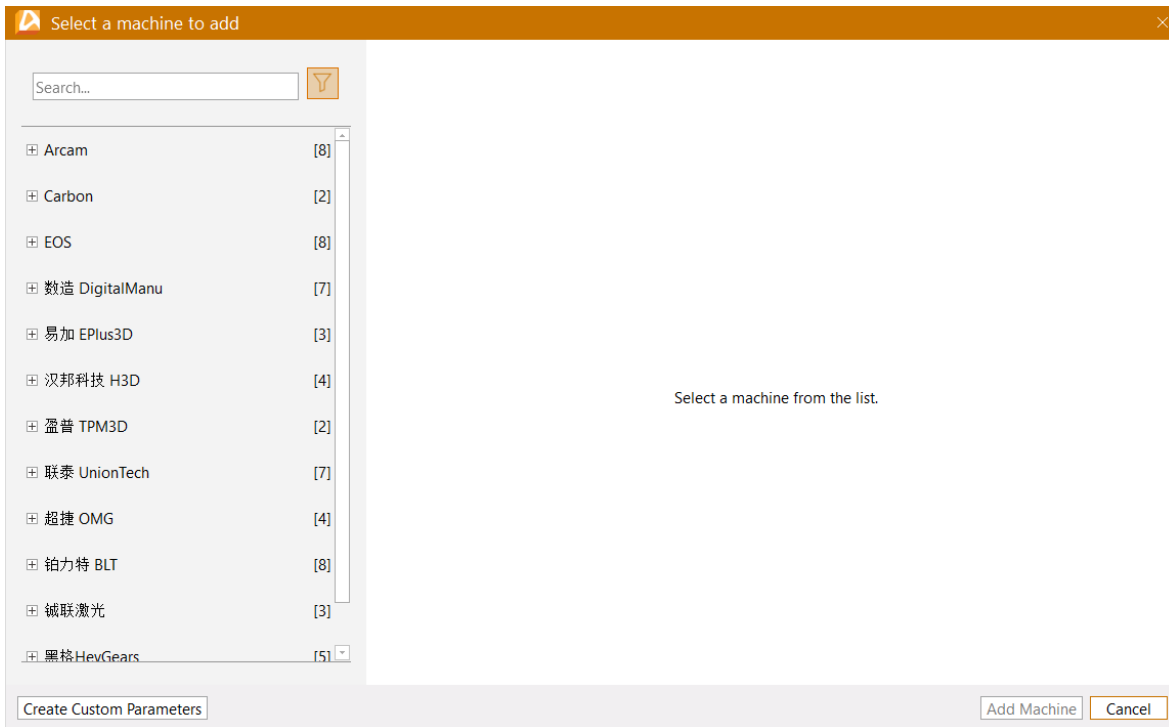

Figure 12.15 Select and define machine
3) In the "My Machines" dialog, click the "Add Group" button, you can create a group to place the added devices. Click the "Add Device" button, there will be some machine libraries provided by the manufacturer, as shown in Figure 12.15, you can select the required machine. You can also enter the machine name in the "Search" box to find it, or click the "Y" icon to filter by manufacturer and technology. Click "Create Custom Parameters", you can set the shape of the platform (rectangle or circle), as well as the size and unworkable area.